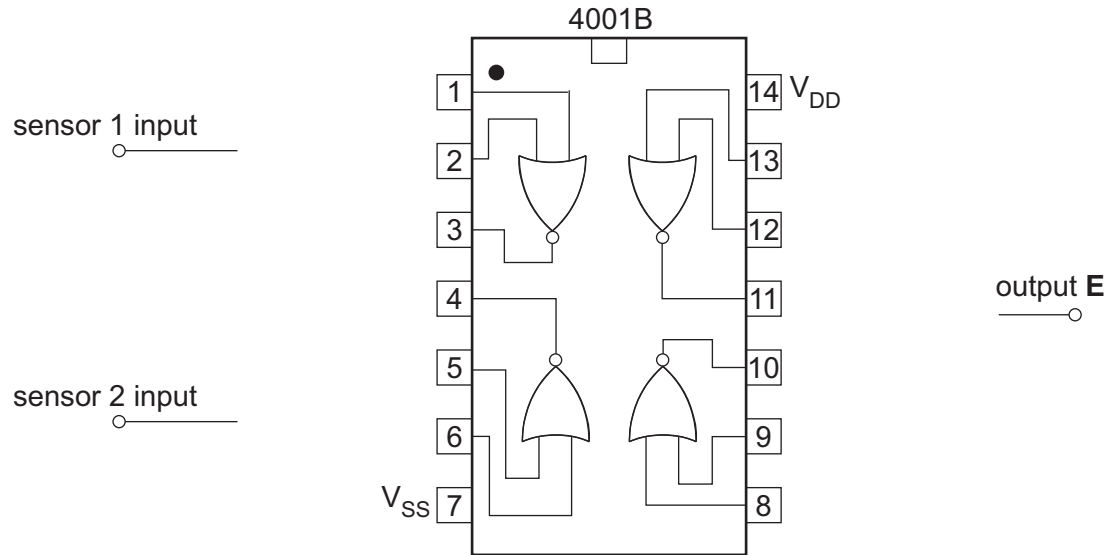

Fig. 12.4
- (iv) Fig. 12.4 shows a Quad NOR gate IC.